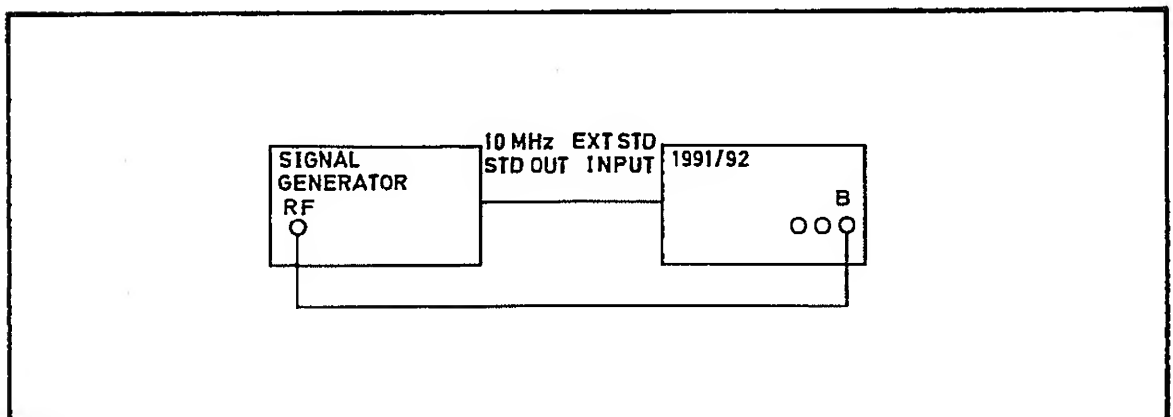

Fig 7.17 Connections for Channel B Sensitivity PVP
- (1) Select 50 Ω on channel B.
- (2) Connect the test equipment as shown in Fig 7.17. Check that the EXT STD indicator lights.
- (3) Press 2 1 SHIFT STORE SF SHIFT SF
- (4) Set the signal generator output to the frequencies shown in Table 7.6 in turn. Set the 1991/92 resolution to the corresponding value.
- (5) At each frequency, determine the minimum input level to the 1991/92 which gives stable counting. Verify that this is not more than the level shown in the table.
- (6) Disconnect the test equipment.